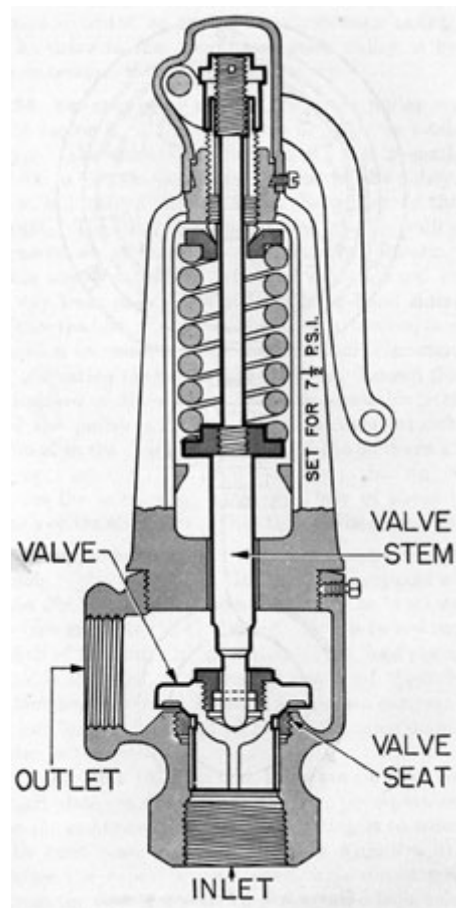

Figure 3-6. Relief valve.
**3C4. Relief valve.** This valve (Figure 3-6) is located on the upper head plate adjacent to the compressor. It connects through the head plate into the compressor discharge space, to prevent overloading of the compressor motor. The valve is normally closed under spring pressure set at 7 1/2 psi. It can also be manually opened at any